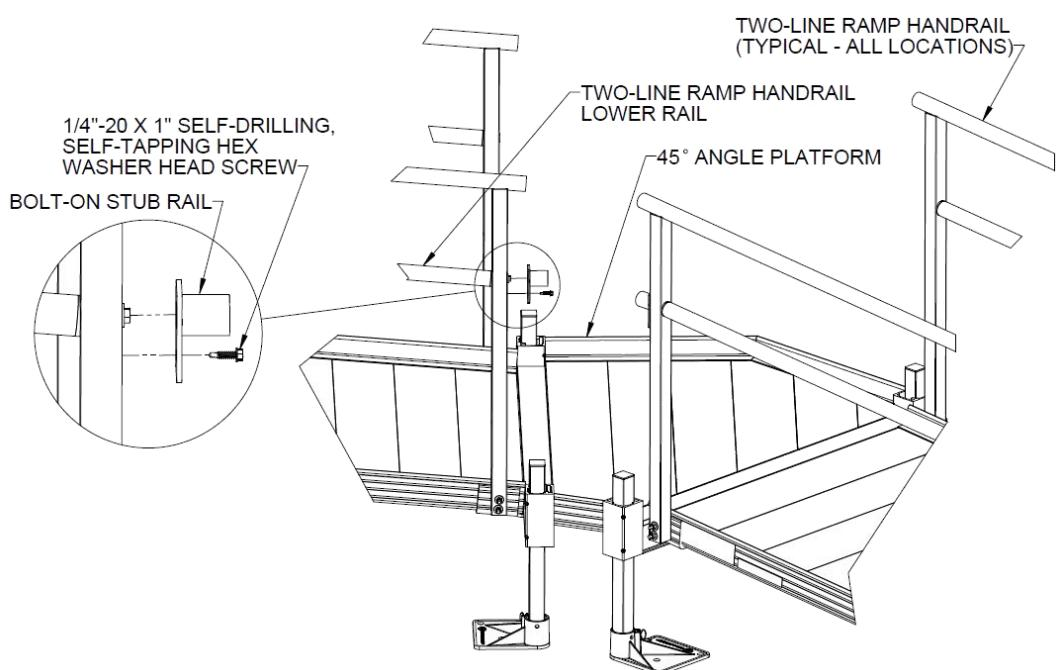

FIG. 4.12
- 4.6.3. After installing the ramp handrails, attach two Bolt-On Stub Rails to the ramp handrail posts on the “short” side of the 45-degree Angle Platform. Center the 1-1/2" diameter tube of the Bolt-On Stub Rail with respect to the ramp handrail lower rail and secure using a 1/4"-20 x 1" self-drilling, self-tapping hex washer head screw (FIG. 4.12).